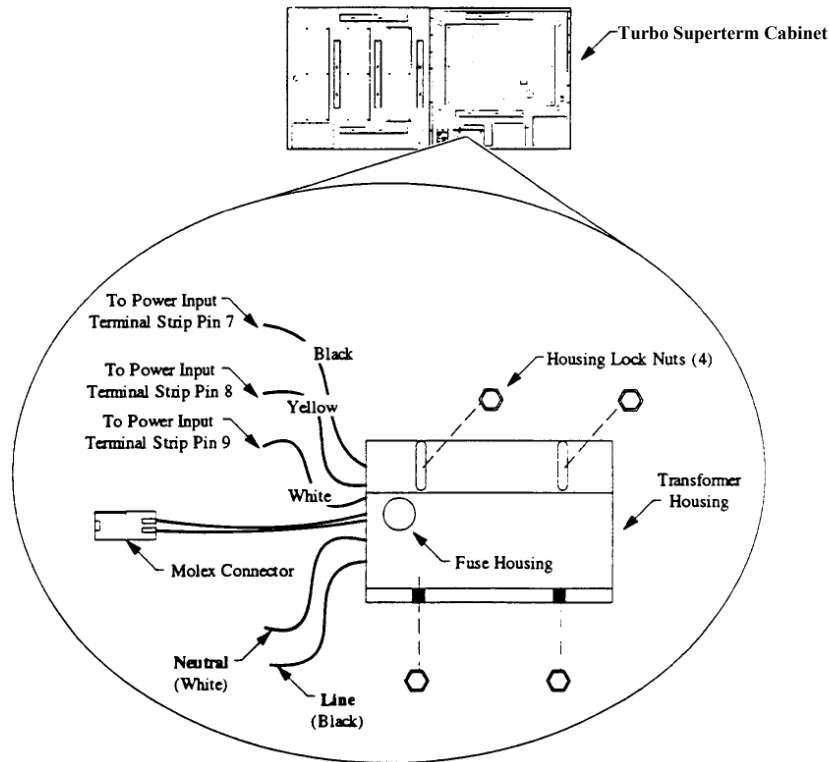

Figure 58 - Replacing the Turbo Superterm Transformer Assembly
1. Open the Turbo Superterm cabinet and locate the transformer assembly (P/N CI-0300-1172-01) secured to the lower left-hand ledge of the Turbo Superterm cabinet (see Figure 58).
8. Remove the four (4) lock nuts securing the transformer assembly to the Turbo Superterm cabinet.